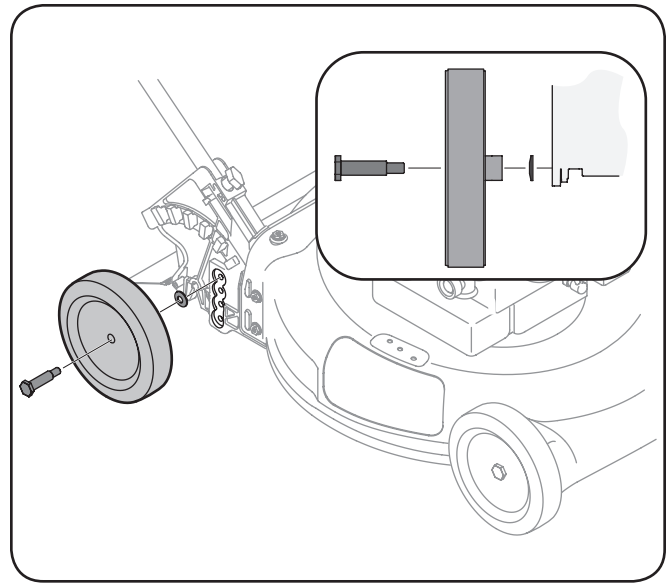

Figure 3-6
1. Using bolts and washers from Group 1 of the hardware pack, secure the rear wheels to the deck as shown in Fig. 3-6. The washer should be installed with the crown side facing the wheel.